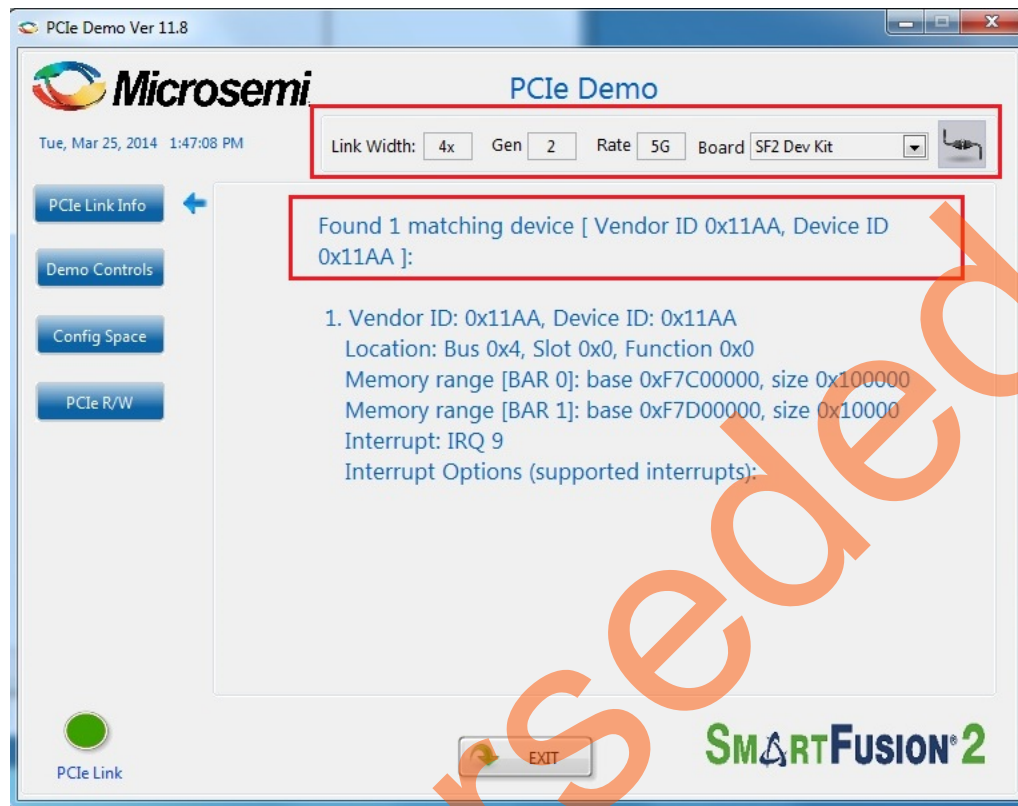

Figure 64 • Version Information
- Click the **Connect** button at the top-right corner of the GUI. The messages will be displayed on the GUI as shown in Figure 64.